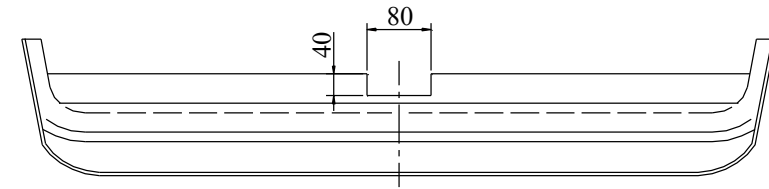

Fig. 2
2. Slip the main bar of the towing hitch (pos. 1) into chassis members and through its holes and holes in towing hitch (pos. A) screw them using bolts M10x30mm (pos. 4) from accessories. Use washers (pos. 5).
3. After cut off fragment the bumper (80x40mm as shown in the fig. 2) assemble it.
4. Fix body of the automat and place tow-ball according to supplied instruction. Note! Remember to place socket plate (pos. 3) as shown on the drawing 1.